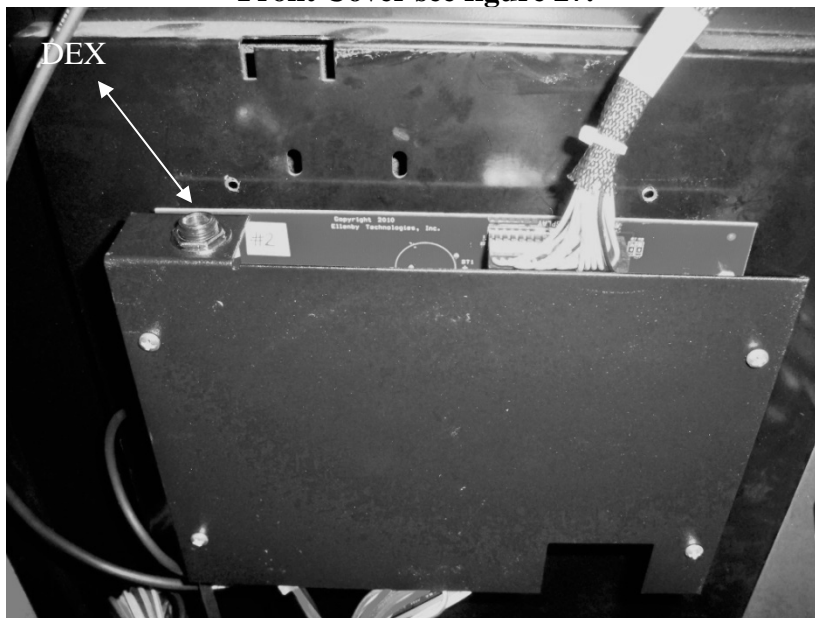

Figure 27
20. Secure the Front Cover over the VMC control board using the 4 screws provided (6-32x3/8”) each screws into the 4 standoff’s installed earlier. **Do not over tighten the screws this may damage the threads of the standoff’s. Also make sure the DEX receptacle is facing up when installing the Front Cover see figure 27.**